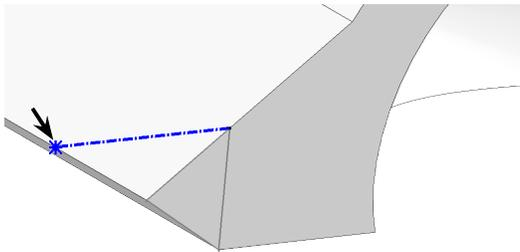

Fig. 67
Step 4. Click **Point**  (L) on the Sketch toolbar.
Step 5. Sketch a **point forward endpoint of centerline**, **Fig. 67**.